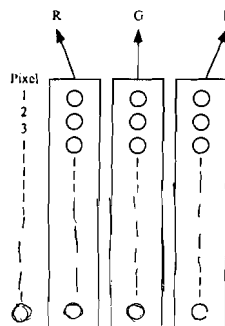

Figure 4: Colour Planes
*Colour Depth* ( or the number of *Colour Planes*) is the number of bits assigned to each pixel to code colour information in it. These are also called *Colour Planes* because each bit of a pixel represents a specific colour and the bit at the same position on every pixel represents the same colour. Hence, the bits at the same position can be thought of as forming a plane of a particular colour shade and these planes piled on top of each other give the final colour at each point. Thus, if each pixel is described by 3 bits, one each for red, green and blue colour, then, there are 3 *Colour Planes* (one each for red, green and blue) and 6 colour planes if there are 6 bits — see Figure 4.
1. Redraw Figure 4 showing Colour-Planes for a true-colour system.